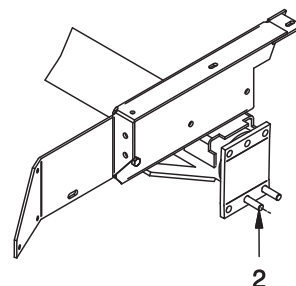

Figure 1 - Mounting Spacer Plate
A. Place (2) Y18C-1032 Bolts through the axle as shown in Figure 1.